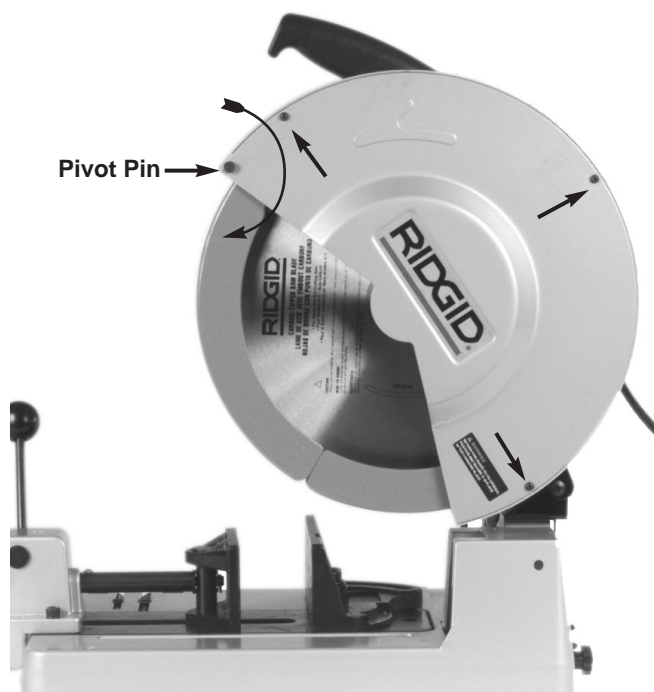

Figure 1
Step 2: Loosen the 3 screws on the safety cover then rotate it **clockwise** around pivot pin to expose the arbor shaft. (Figure 1)